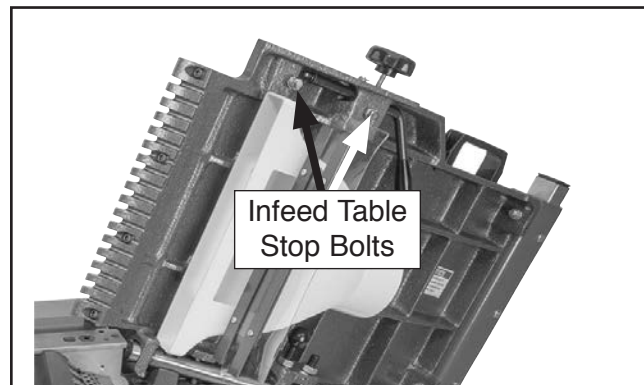

Figure 65. Location of infeed table stop bolts for adjusting infeed table parallelism.
- If front of infeed table is higher or lower than outfeed table, adjust infeed table stop bolts (see **Figure 65**).